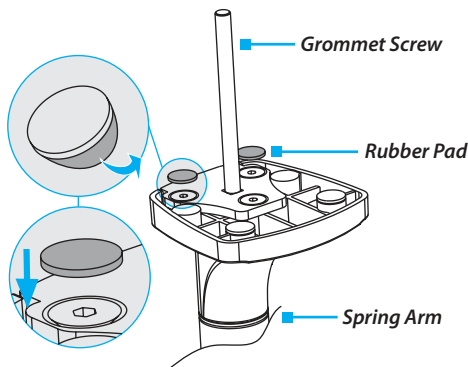

Figure 9
5. Remove the backing from the two **Rubber Pads** (7) and affix the **Rubber Pads** to the tops of two of the **Clamp Screws** on the underside of the **Spring Arm**. (Figure 9)